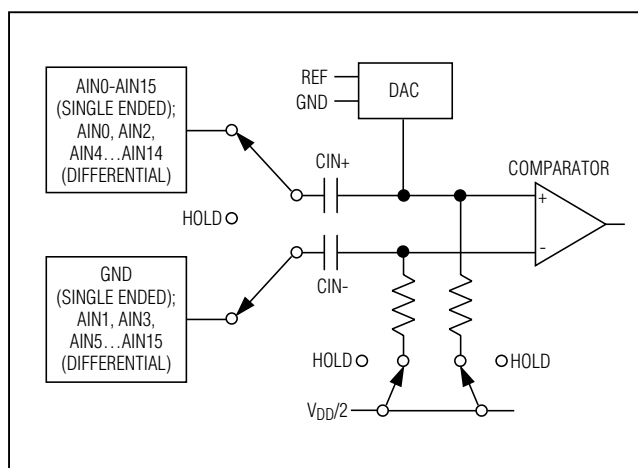

Figure 3. Equivalent Input Circuit
**Note 6:** See Figure 3 (Input Equivalent Circuit) and the *Sampling Error vs. Source Impedance* curve in the *Typical Operating Characteristics* section.
The MAX1027/MAX1029/MAX1031 use a fully differential ADC for all conversions. The analog inputs can be configured for either differential or single-ended conversions by writing to the setup register (see Table 3). Single-ended conversions are internally referenced to GND (Figure 3).
The equivalent circuit of Figure 3 shows the MAX1027/MAX1029/MAX1031's input architecture. In track mode, a positive input capacitor is connected to AIN0–AIN15 in single-ended mode (and AIN0, AIN2, AIN4...AIN14 in differential mode). A negative input capacitor is connected to GND in single-ended mode (or AIN1, AIN3, AIN5...AIN15 in differential mode). For external track-and-hold timing, use clock mode 01. After the T/H enters hold mode, the difference between the sampled positive and negative input voltages is converted. The time required for the T/H to acquire an input signal is determined by how quickly its input capacitance is charged. If the input signal's source impedance is high, the required acquisition time lengthens. The acquisition time,  $t_{ACQ}$ , is the maximum time needed for a signal to be acquired, plus the power-up time. It is calculated by the following equation: